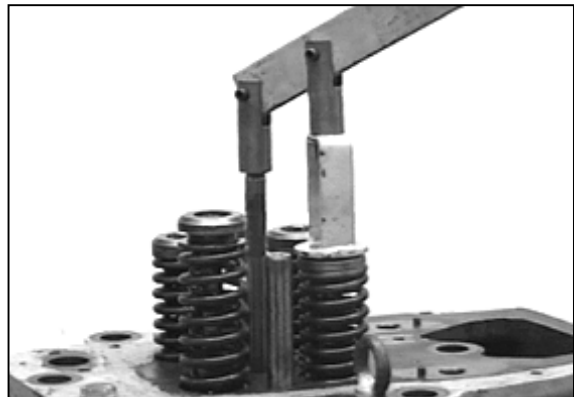

Fig.22 Compress the spring with the compressor and fit the collets.
3. Compress the springs with the compressor (**Fig.22**) and fit the taper collets to the valve stem.